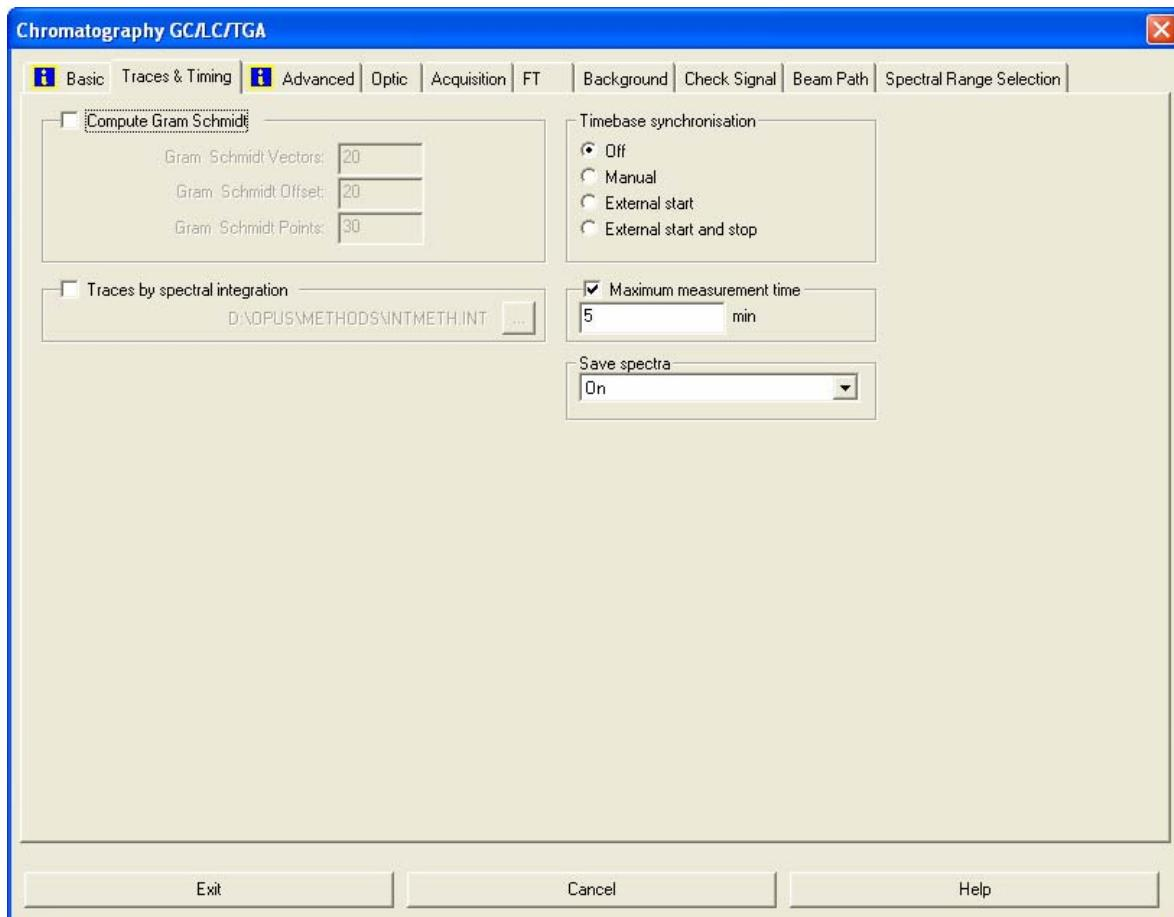

Fig. 5: Chromatography dialog window – Traces & Time page
- Click on the “Traces & Timing” tab. (See fig.5.) Make sure that the check boxes “Compute Gram Schmid” and “Traces by spectral integration” are not activated because they are only useful for real chromatography measurements. In the group field “Time base synchronization”, activate the option button “Off”. Activate “Maximum measurement time” check box and enter the desired maximum measurement time. A maximum measurement time of 5 minutes is a good starting point, but depending on the results, you can also test longer and/or shorter measurement times. In the “Save Spectra” drop-down list, it is recommended to select the option “On”.